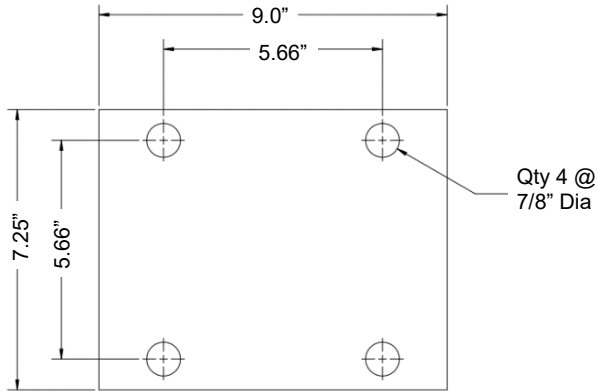
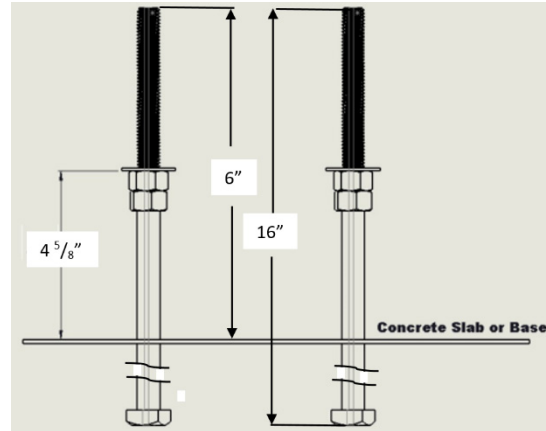

Figure 1 - Anchor Positioning
Figure 2 - Setting Washer Height
- **Mounting bolts must be spaced according to the dimensions shown in Figure 1. Use of a mounting template is recommended. Contact Sales for pre-delivery of a cardboard template or print one from page 3 of this document.**
- **Mounting bolts must extend 6" above the concrete floor and be no larger than $\frac{3}{4}$ " in diameter. See Figure 2.**
- 3) For a mounting-hole pattern, a cardboard mounting template is included with the Tower (Guardian P/N: P007745). See Figure 1 for positioning of the anchors and Figure 2 for the ideal height for the nuts/washer on the anchors. If the Tower with the mounting template has not been received, a request can be sent to Guardian to provide a template.